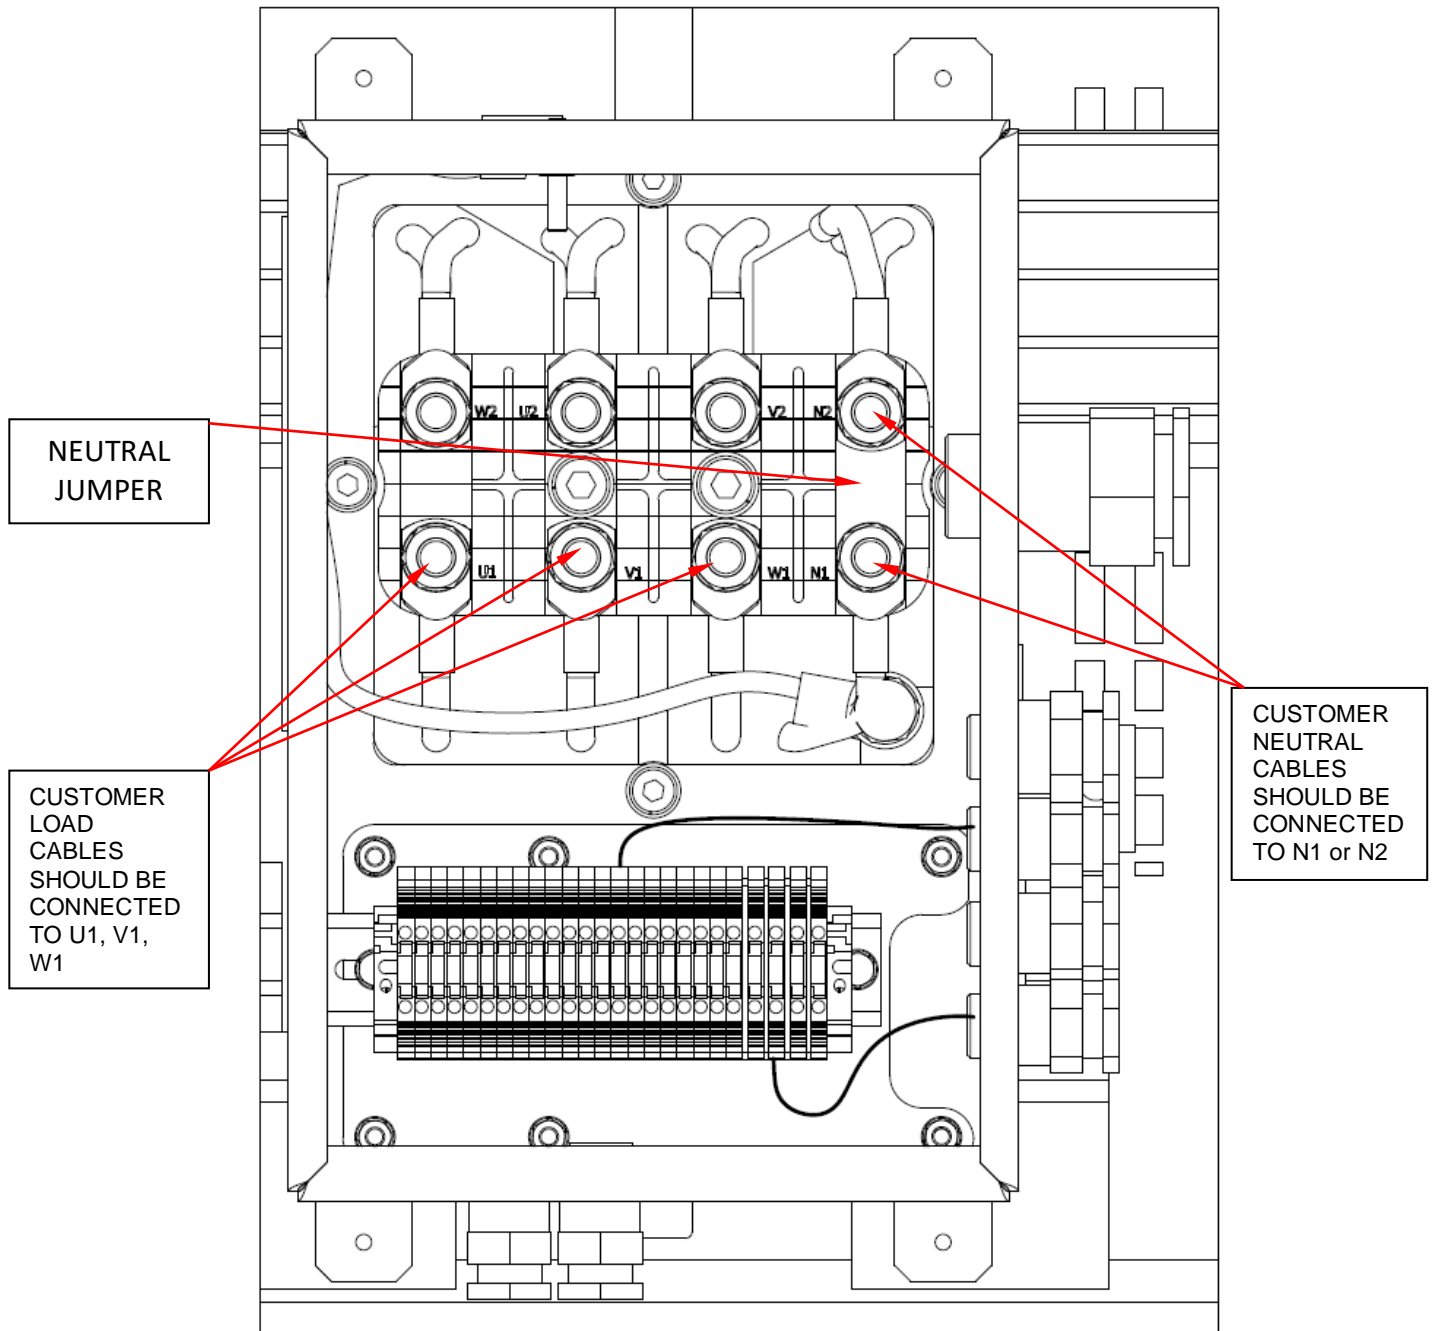

Figure 24 – Customer Load Connections
- N1-N2 has a neutral jumper fitted under the lower washers (refer to Figure 24).